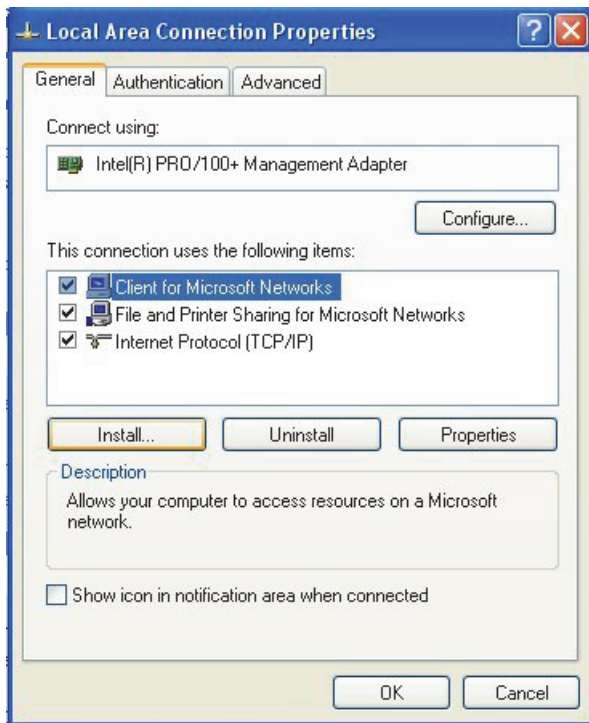

Figure 14-3 The Local Area Connection Properties dialog box (Windows XP)
The **Local Area Connection Properties** dialog box for the selected connection appears (see Figure 14-3 on page 285).
5. Make sure that the three following items are available in the connection window (see Figure 14-3 on page 285):